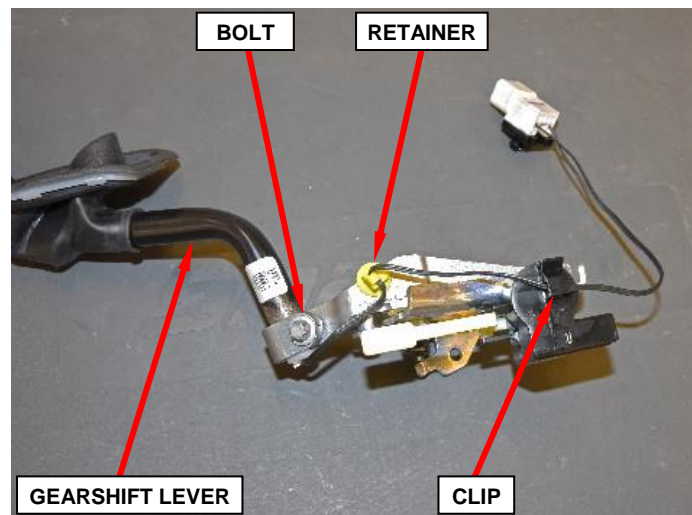

Figure 13 – Gearshift Lever
19. Remove the gearshift bracket / BTSI assembly with shift lever from the steering column then transfer to bench (Figure 13).
20. Remove the upshift/downshift electrical harness from the retaining clip (Figure 13).
21. Release the upshift/downshift electrical harness retainer from the gearshift bracket / BTSI assembly (Figure 13).
22. Remove and save the E10 star-head pinch bolt securing the shift lever to the gearshift bracket / BTSI assembly (Figure 13).
23. Remove and save the gearshift lever from the gearshift bracket / BTSI assembly (Figure 13).
- 27. Install the E10 star-head pinch bolt securing the shift lever to the gearshift bracket / BTSI assembly. Tighten the pinch bolt to 11 N·m (97 in. lbs.) (Figure 13). Ensure shift lever is properly seated and not loose after tightening.
- 28. Attach the upshift/downshift electrical harness retainer to the gearshift bracket / BTSI assembly (Figure 13).
- 29. Install the upshift/downshift electrical harness to the retaining clip (Figure 13).